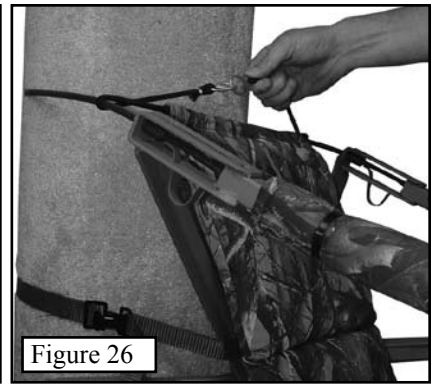

Figure 26
**Step 3.** Unhook the bungee cord that held the seat back rest secure while you were climbing. Position the seat back rest by wrapping each end of the bungee cord around the climbing cable and hooking the two hooks together as shown in *Figure 26* or by wrapping it around the tree. The bungee cord will prevent the seat backrest from falling forwards if you stand up.